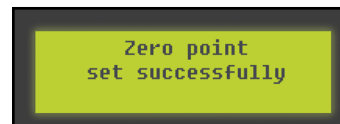

Fig.29
7. LCD display will read "Zero point set successfully" once process is complete (Fig.29).